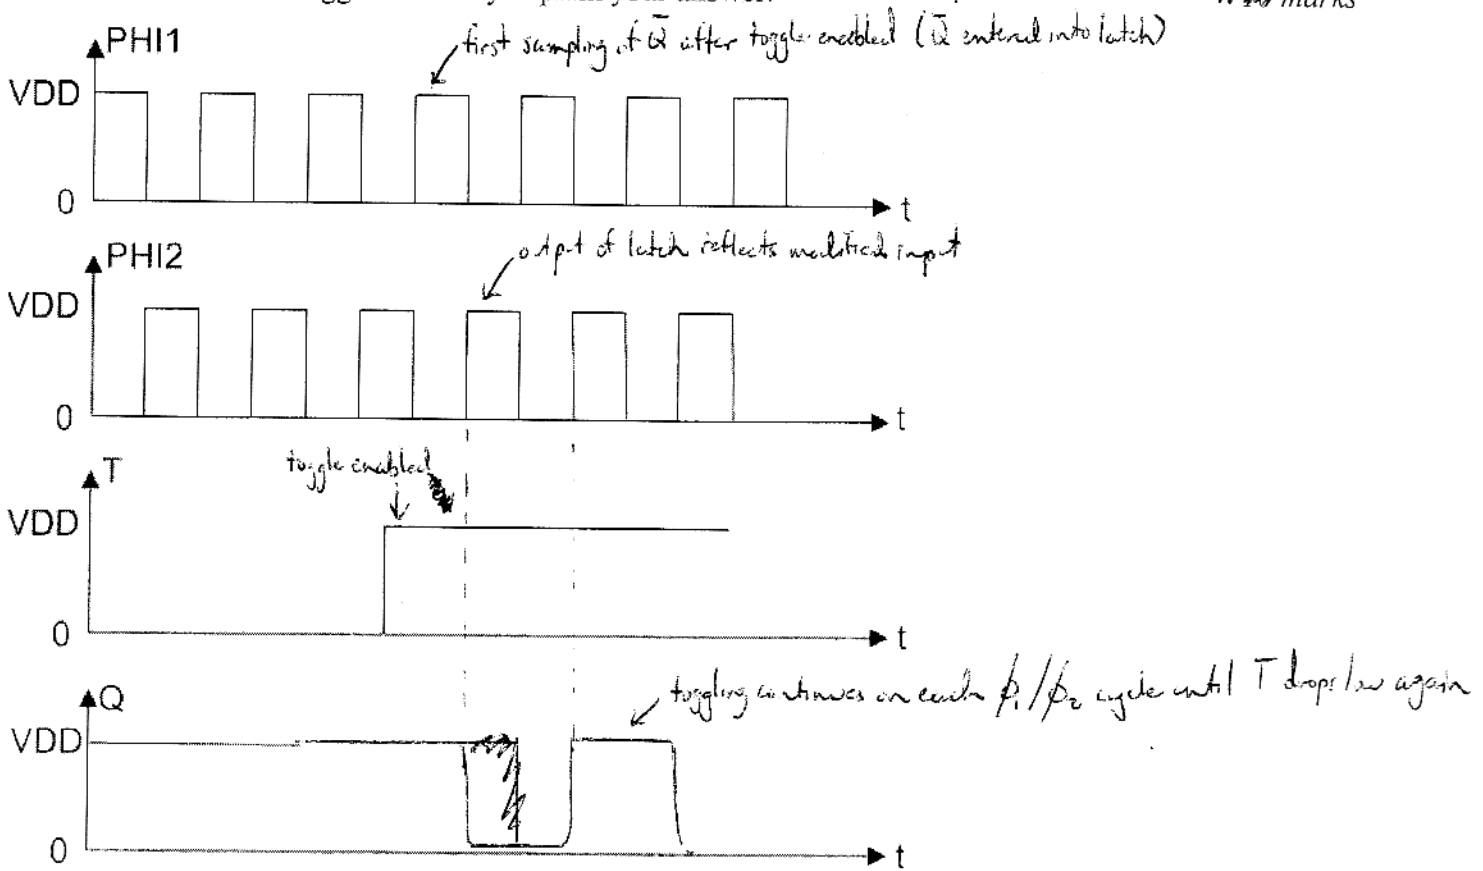

Fig. 3.1
- d) Complete the timing diagram in Fig. 3.1 below showing the output waveform Q produced by the circuit. "T" is short for "Toggle". Briefly explain your answer. 11 marks